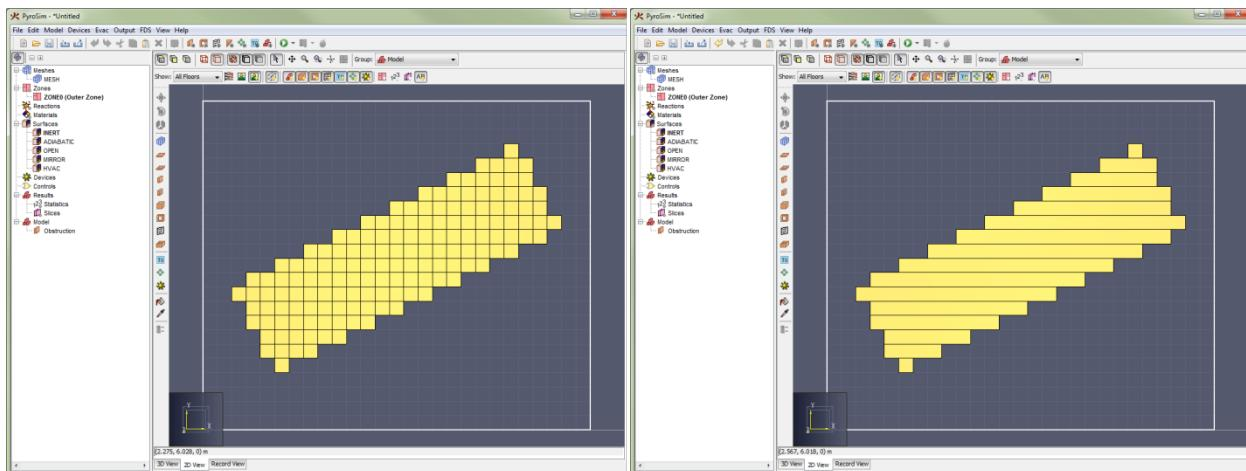

Figure 18.6. Merging converted blocks
- **Block Size:** Controls how large resulting blocks may be. See Figure 18.6.